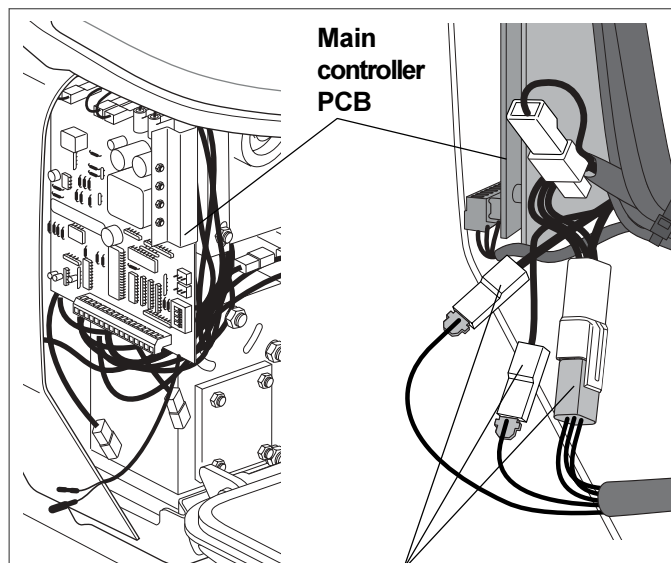

Fig. 45 Connect the seat loom to the main loom
- 9 Connect the seat loom to the main loom, and the main controller PCB (Fig. 45 and 45A).